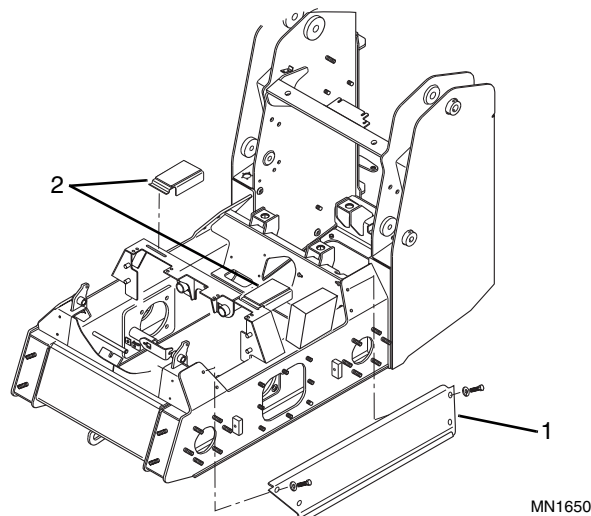

Figure 7-21 Chassis Panel Installation
14. Install the left (Fig. 7-21, 1) and right (not shown) side panels to the chassis, and both seal covers (2) to the travel/steering lever crossmember.